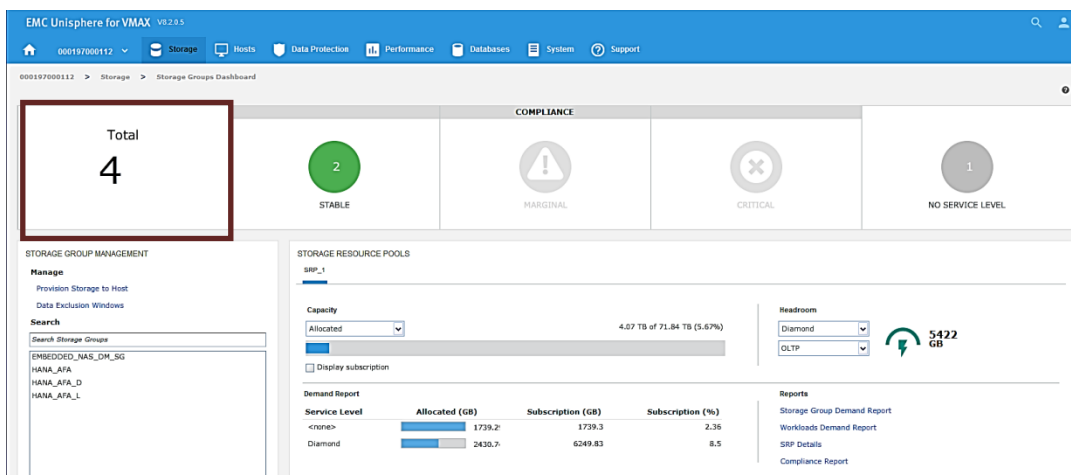

Figure 5. Storage Group dashboard
1. Go to the Storage Group dashboard, as shown in Figure 5.